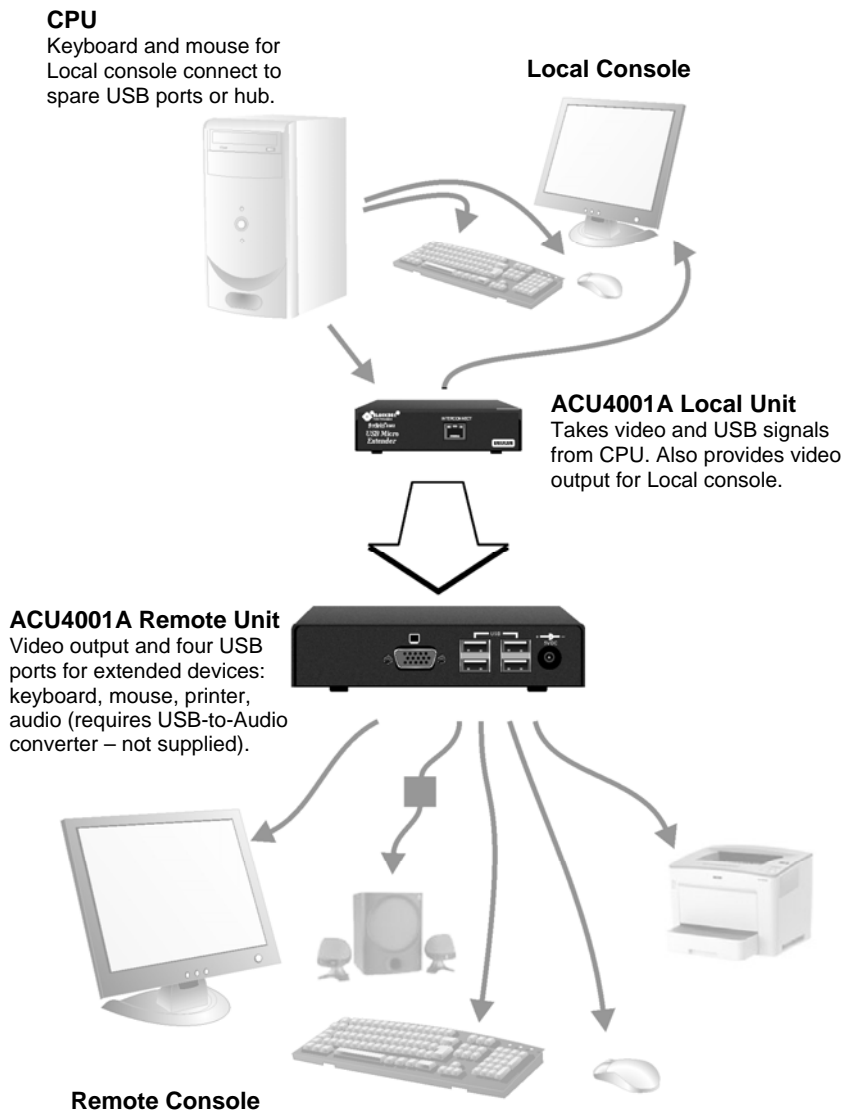

Figure 6
- Simple system using ACU4001A to provide remote console with extended USB keyboard, mouse and printer (Figure 6). Audio extended by USB using USB-to-Audio converter at the Remote Unit (not included).